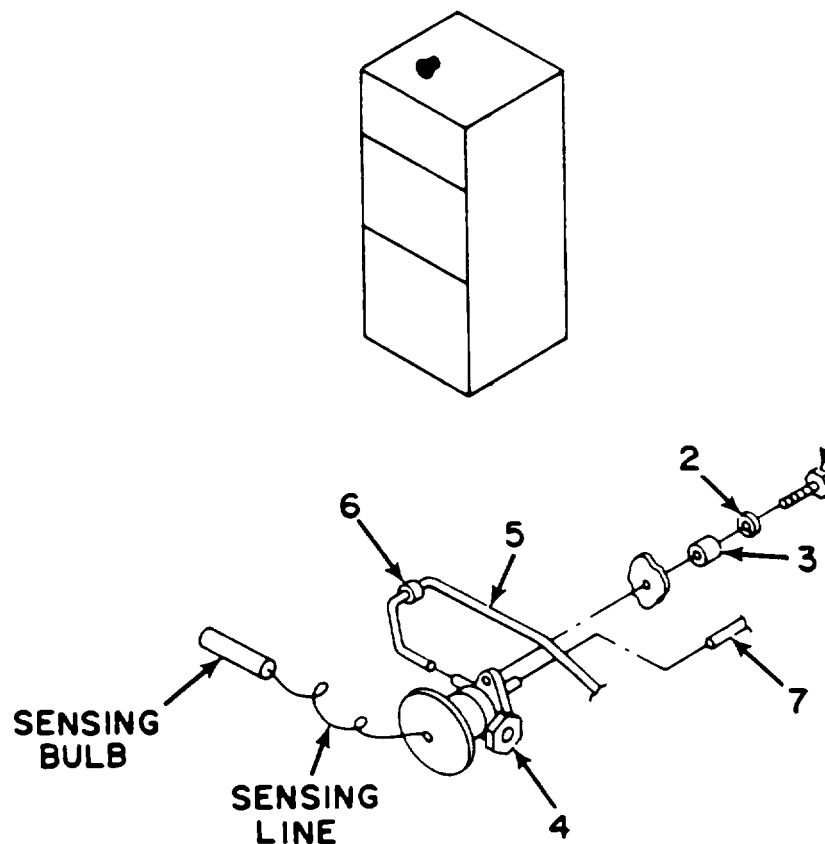

Figure 5-16. Expansion (Quench) Valve.
- a. INSPECTION. See Figure 5-16.